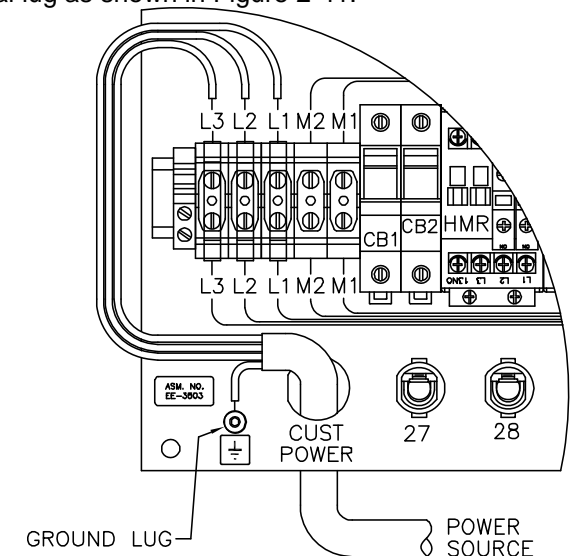
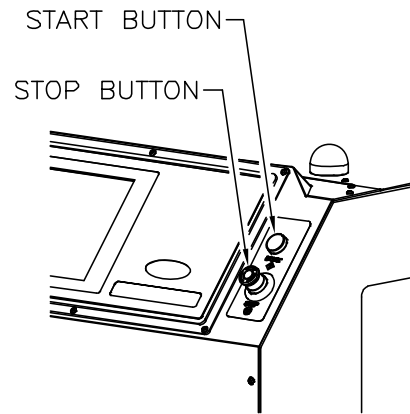

Figure 2-41. Power Panel
Figure 2-42. Start Button
3. Locate the cable hole in the lower left-hand corner of the power panel Figure 2-41. Mount a strain relief in this hole.
5. Locate the terminal block at the lower, left-hand corner of the power panel Figure 2-41.
6. Fasten the ground lead to the ground terminal lug as shown in Figure 2-41.
7. Fasten the three power leads to the three terminals **L1**, **L2**, and **L3** (Figure 2-41) on the main power terminal block.
10. Unlock and switch on (I) the supply power disconnect switch.
11. Switch on (I) the machine's power.
12. Press the green start button key on the front console (Figure 2-42) to initiate the machine.